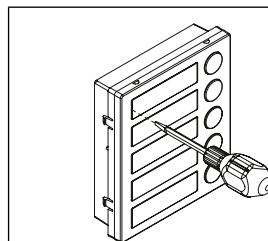

Fig. 3
- Insert the screwdriver (flat side) into the card-holder hole as shown in **Fig. 3**;